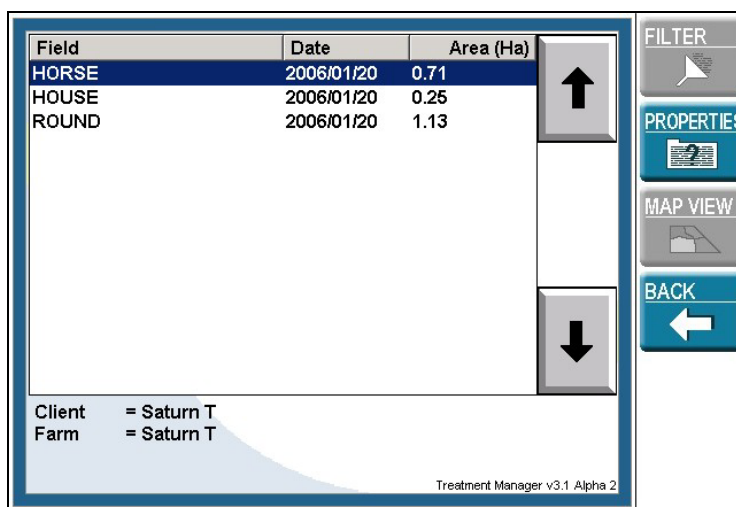

Figure 4-3: Field History Window
- 1) A list of all fields will be displayed, as shown in Figure 4-3. If the field has been treated several times in the current season, it may appear in the list several times.